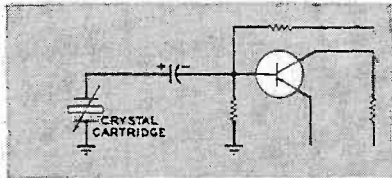

Fig. 11. Crystal cartridge effectively short circuited with 1000-ohm resistor.
*Crystal and ceramic cartridges:* as mentioned before, crystal cartridges, when shorted, require normal equalization, or close to it. If a circuit like that in Fig. 11 is used, the mere 1,000 ohms or so offered by the amplifier is small as far as the cartridge is concerned, and is effectively a short.